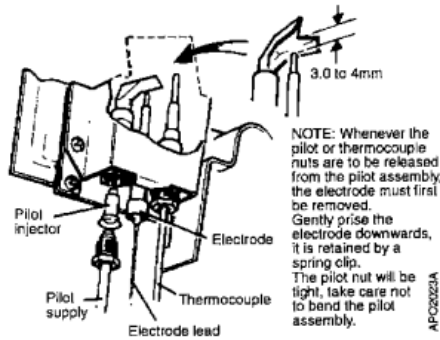

Fig 17
9. Undo the nut and disengage the thermocouple, See Fig. 17, from the pilot assembly.
11. Undo the tubing nuts and disconnect the pilot supply, see Fig.17, from both the pilot assembly and gas valve.
12. Carefully remove and retain the pilot injector, See Fig. 17.
7. Replace the spark electrode ensuring it is pushed fully home. Check that the spark gap is 3.0 to 4.0 mm, See Fig. 17.
5.1 To Replace the Spark Electrode - See Fig. 17.
2. Disconnect the electrode lead, See Fig. 17, from the spark electrode.
3. Carefully remove the electrode from the pilot assembly - see note in Fig. 17.
5. Remove the two screws securing the pilot shield. Lift off the pilot shield and check that the spark gap is 3.0 to 4.0 mm as shown in Fig. 17.
5.2 To Replace the Pilot Injector - See Fig. 17.
3. Carefully remove the spark electrode from the pilot assembly - See note in Fig. 17.
5. Undo the tubing nuts and disconnect the pilot supply, See Fig. 17, from both the pilot assembly and gas valve.
6. Remove the pilot injector from the pilot assembly, See Fig. 17.
5.3 To Replace the Pilot Burner - See Fig. 17.
5. Undo the nut and disengage the thermocouple, See Fig. 17, from the pilot assembly.
6. Undo the tubing nuts and disconnect the pilot supply, See Fig. 17, from both the pilot assembly and gas valve.
7. Remove the pilot injector from the pilot assembly, See Fig. 17.
10. Fit a new pilot burner and secure with two screws. Replace the pilot injector, pilot supply, thermocouple and spark electrode. Check that the spark gap is 3.0 to 4.0 mm as shown in Fig. 17.
4. Carefully remove the spark electrode from the pilot assembly - See note in Fig. 17.
5. Disconnect the thermocouple, See Fig. 17, from both the pilot assembly and gas valve.